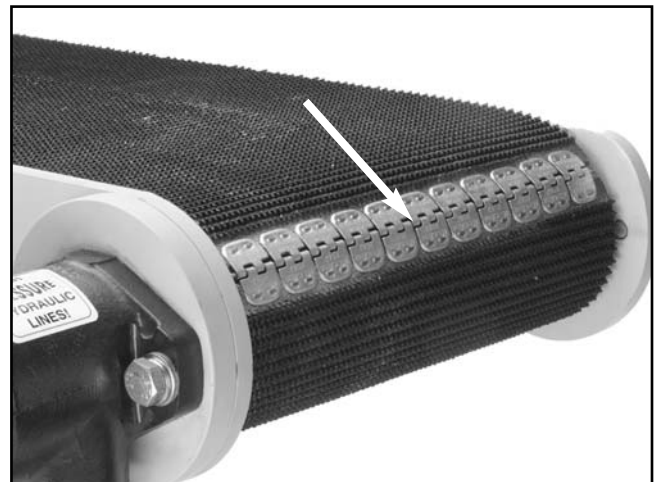

Figure 42. Conveyor belt seam.
2. Stop the conveyor belt when the conveyor belt seam (see **Figure 42**) is accessible.